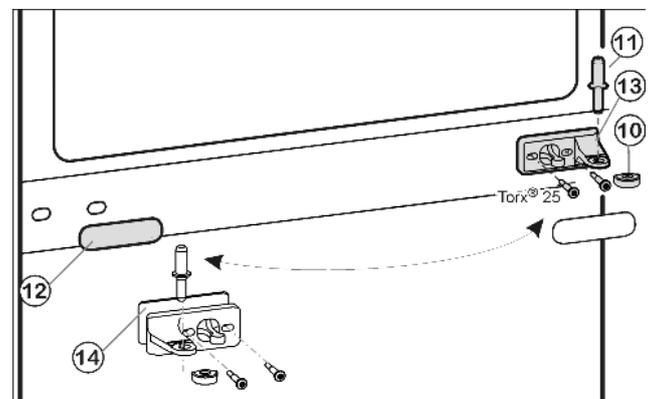
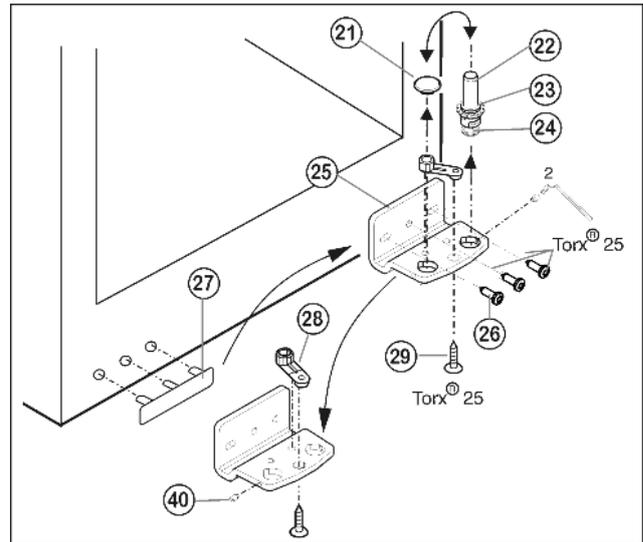

Fig. 5
Fig. 7
- ▶ Draw the middle bearing pin Fig. 5 (11) out of the turn hinge and lower door.
- ▶ Remove the plastic cap Fig. 5 (10).
- ▶ Unscrew the middle turn hinge (2x Torx® 25). Fig. 5 (13)
- ▶ Carefully detach the cover panel Fig. 5 (12).
- ▶ Turn the middle turn hinge Fig. 5 (13) with the washer Fig. 5 (14) through 180° and screw it firmly into place on the new hinge side (with 4 Nm).
- ▶ Turn the cover panel *Fig. 5 (12)* through 180° and snap it into place again on the new handle side.
- ▶ Using the accompanying Allen key, unscrew the threaded pin *Fig. 7 (40)* by about 1 turn.
- ▶ Turn and lift out the bearing pin *Fig. 7 (22)* together with the washer *Fig. 7 (23)* and adjustable-height foot *Fig. 7 (24)*.
- ▶ Lift out the stopper *Fig. 7 (21)*.
- ▶ Unscrew *Fig. 7 (26)* the turn hinge *Fig. 7 (25)*.
- ▶ Fully unscrew the threaded pin *Fig. 7 (40)* and screw it in on the opposite side, at the turn hinge, until it is flush outside with the turn hinge.
- ▶ Unscrew *Fig. 7 (29)* the bearing element *Fig. 7 (28)*, transfer it to the opposite location hole of the turn hinge and screw it firmly into place.
- ▶ Re-insert the stopper *Fig. 7 (21)* into the other hole.
- ▶ Carefully lift off the cover on the handle side *Fig. 7 (27)* and transfer it to the opposite side.
- ▶ Screw the turn hinge *Fig. 7 (25)* firmly into place on the new hinge side, possibly using a cordless screwdriver (**with 4 Nm**).
- ▶ Screw the bearing pin *Fig. 7 (22)* into place again, complete with washer and adjustable-height foot.
- ▶ Tighten the threaded pin *Fig. 7 (40)*.
- ▶ Place the lower door from above onto the lower bearing pin *Fig. 7 (22)*.
- ▶ Place the plastic cap *Fig. 5 (10)* back onto the middle turn hinge *Fig. 5 (13)*.
- ▶ Place the middle bearing pin *Fig. 5 (11)* in the lower door, on the new hinge side, through the middle turn hinge *Fig. 5 (13)*.
- ▶ Place the upper door on the middle bearing pin *Fig. 5 (11)*.
- ▶ If necessary, align the doors to the appliance housing by way of the two oblong holes in the bottom turn hinge *Fig. 7 (25)* and middle turn hinge *Fig. 5 (13)*. To do so, unscrew the middle screw in the bottom turn hinge *Fig. 7 (25)*.